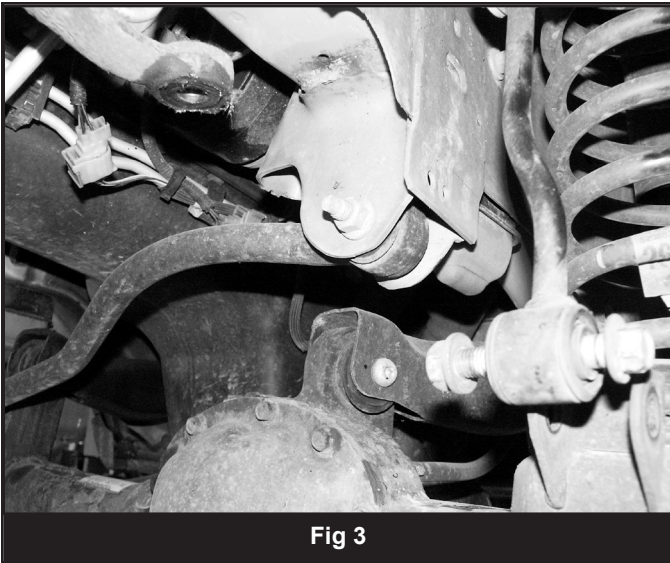

Fig 3
7. Support the front axle with a jack and disconnect the front track bar from the driver's side frame mount (Fig 3). Retain hardware.